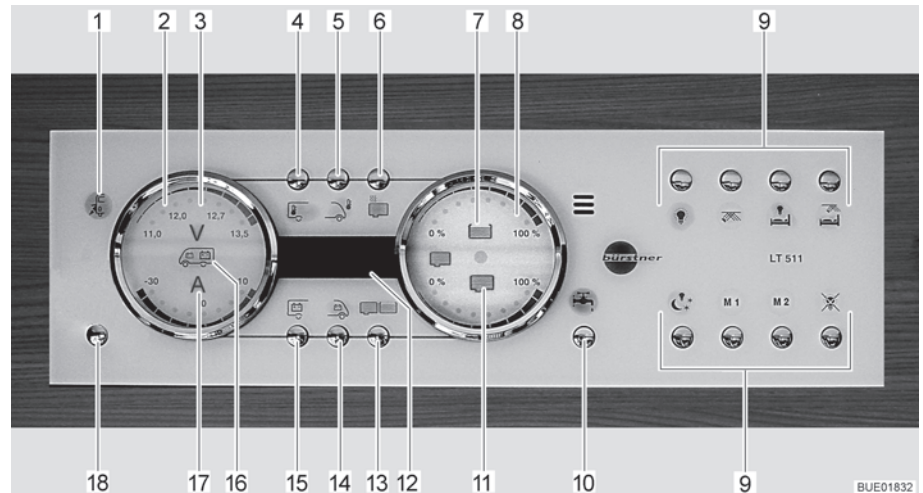

Fig. 119 Panel LT 511
The 230 V indicator lamp (Fig. 119,1) illuminates whenever line voltage is available at the transformer/rectifier input.
The 12 V main switch (Fig. 119,18) switches the panel and the 12 V power supply of the living area on and off.
Switching on: ■ Briefly press the 12 V power supply button (Fig. 119,18). The 12 V living area power supply is switched on. The "12 V" indicator lights up.
▷ If, after switching on, the "11.0" LED of the volt indicator and the "V" volt symbol (Fig. 119,3) in the batteries gauge (Fig. 119,2) flash, the voltage of the living area battery is too low. Charge battery.
▷ If, after switching on, the "12 V" indicator and the "V" volt symbol (Fig. 119,3) flash three times, battery separation is activated. Deactivate battery separation.
Switching off: ■ Briefly press the 12 V power supply button (Fig. 119,18). The 12 V living area power supply is switched off. The "12 V power supply" indicator goes out.
- Press button for living area battery (Fig. 119,15) and hold it down for approx. 10 seconds. The "V" volt symbol (Fig. 119,3) and the "12 V" indicator flash three times. The living area battery is disconnected from the 12 V power supply.
- Press the 12 V power supply button (Fig. 119,18) and hold it down for approx. 5 seconds. The "V" volt symbol (Fig. 119,3) and the "12 V" indicator flash three times. The living area battery is connected to the 12 V power supply. The indicator lights up after approx. 5 seconds.
- Displays: ■ Press button for living area battery (Fig. 119,15). The "V" volt symbol (Fig. 119,3) lights up. The "A" ampere symbol (Fig. 119,17) lights up as either white or red depending on whether it is charging or discharging. The battery voltage and electricity of the living area battery are displayed via the LEDs in the gauge.
- Press button for starter battery (Fig. 119,14). The "V" volt symbol (Fig. 119,3) lights up. The battery voltage of the starter battery is displayed using the LEDs in the gauge.
- Press tanks button (Fig. 119,13). The water tank (Fig. 119,7) and waste water tank (Fig. 119,11) symbols light up. The fill levels of the water tank (upper scale) and of the waste water tank (lower scale) are indicated using the LEDs in the gauge.
Tank alarm The water tank symbol (Fig. 119,7) or waste water tank symbol (Fig. 119,11) flashes when the water tank is empty or the waste water tank is full.
The internal and external temperatures can be indicated using the digital display (Fig. 119,12).
Displays: ■ Press the button for the internal temperature (Fig. 119,4). The internal temperature is displayed.
■ Press external temperature button (Fig. 119,5). The external temperature is displayed.
The water pump can be turned on and off using the water pump button (Fig. 119,10).
Switching on: ■ Press the water pump button (Fig. 119,10). The symbol lights up.
Switching off: ■ Press the water pump button (Fig. 119,10). The symbol goes out.